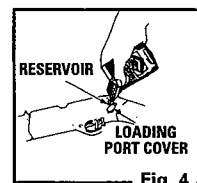

Fig. 4
- Slide the loading port cover toward the rear of the air rifle. (Fig. 4)